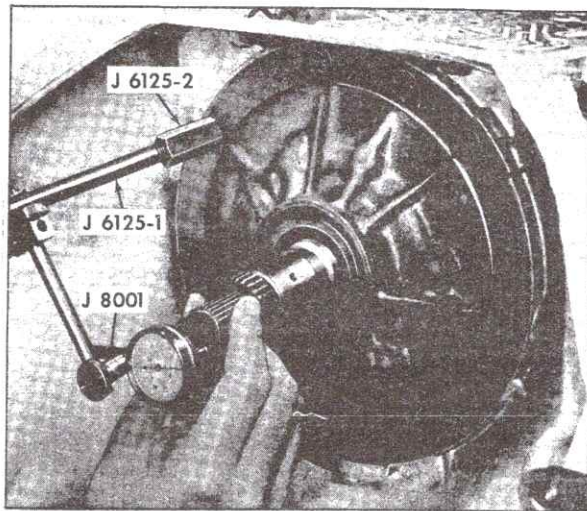

Fig. 7-38 Front Unit End Play Check
6. Pull turbine shaft forward, Fig. 7-38.